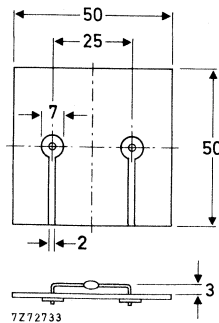

Fig. 2 Device mounted on a printed-circuit board.
2. Thermal resistance from junction to ambient; device mounted on an 1,5 mm thick epoxy-glass printed circuit board; Cu-thickness $> 40\text{ }\mu\text{m}$; Fig. 2 (see "Thermal model")